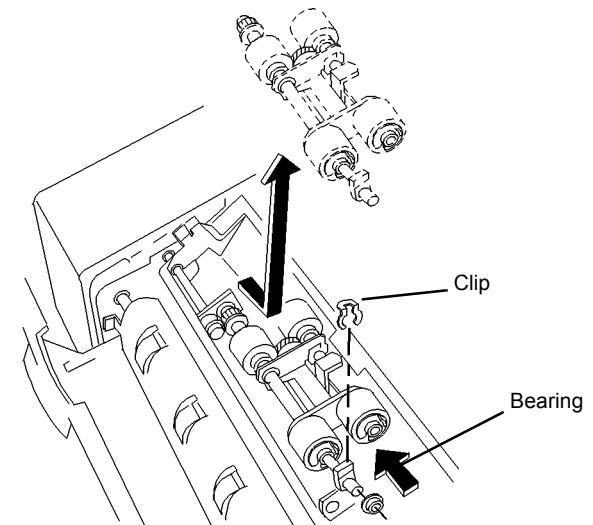

Figure 2 Removing Feed Roll Assembly
2. Remove Feed Roll Assembly (Figure 2).